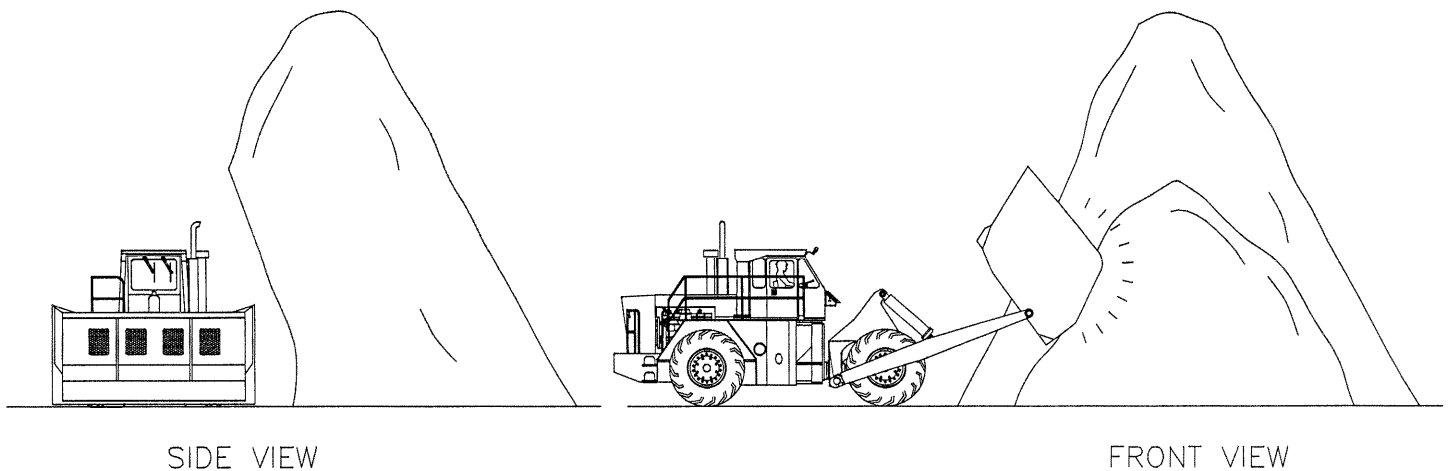

Fig. 4-7
1. If it becomes necessary to knock down a overhang, use the following procedure as shown in Fig.4-7.
**Never place yourself or dozer under the overhang. Approach from the outside of the overhang and break down with the bucket as shown in Fig. 4-7.**